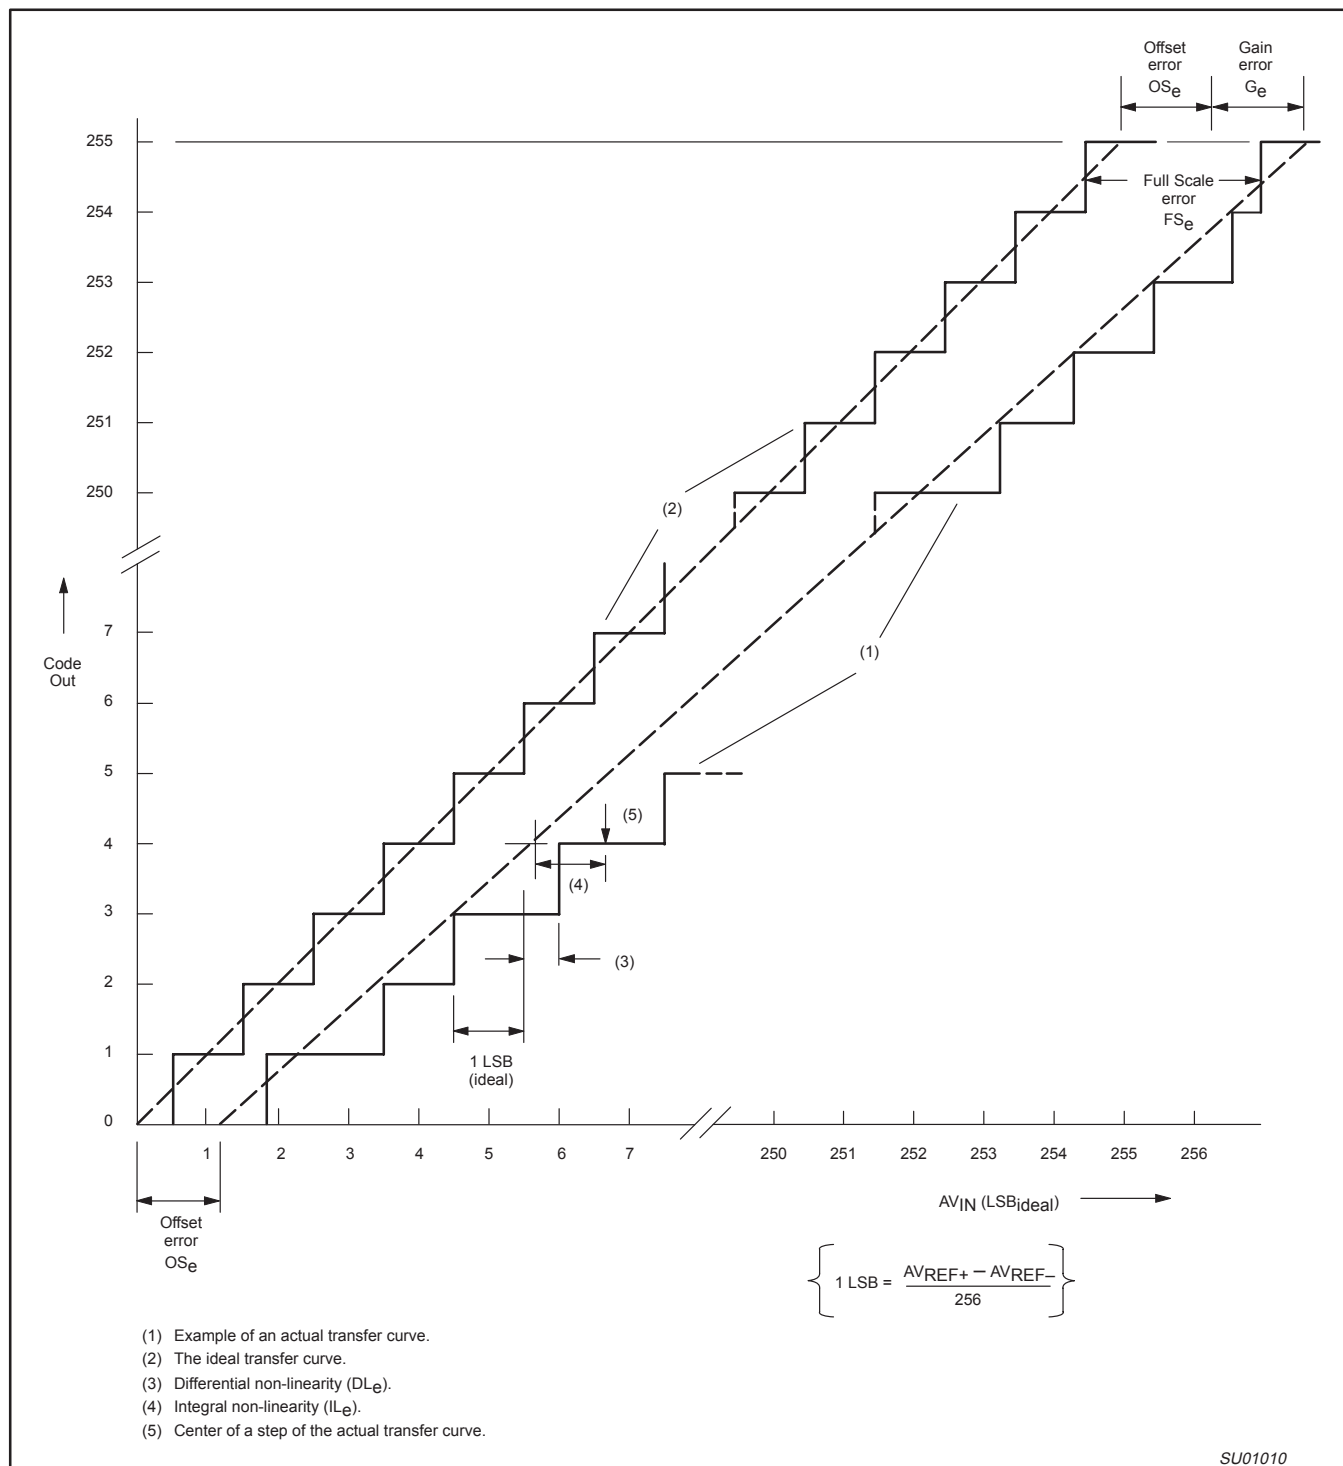

Figure 25. ADC Conversion Characteristic
- The differential non-linearity (DL_e) is the difference between the actual step width and the ideal step width. See Figure 25.
- The integral non-linearity (IL_e) is the peak difference between the center of the steps of the actual and the ideal transfer curve after appropriate adjustment of gain and offset errors. See Figure 25.
- The offset error (OS_e) is the absolute difference between the straight line which fits the actual transfer curve (after removing gain error), and the straight line which fits the ideal transfer curve. See Figure 25.
- The gain error (G_e) is the relative difference in percent between the straight line fitting the actual transfer curve (after removing offset error), and the straight line which fits the ideal transfer curve. Gain error is constant at every point on the transfer curve. See Figure 25.
2. The differential non-linearity (DL_e) is the difference between the actual step width and the ideal step width. See Figure 25.
4. The integral non-linearity (IL_e) is the peak difference between the center of the steps of the actual and the ideal transfer curve after appropriate adjustment of gain and offset errors. See Figure 25.
5. The offset error (OS_e) is the absolute difference between the straight line which fits the actual transfer curve (after removing gain error), and the straight line which fits the ideal transfer curve. See Figure 25.
6. The gain error (G_e) is the relative difference in percent between the straight line fitting the actual transfer curve (after removing offset error), and the straight line which fits the ideal transfer curve. Gain error is constant at every point on the transfer curve. See Figure 25.